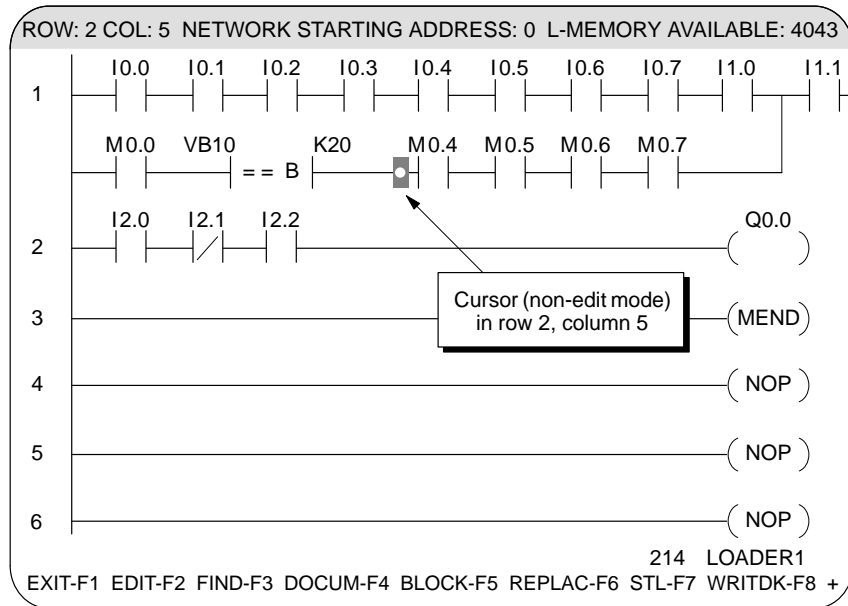

Figure 4-3 Example of Network that Extends Beyond the Screen
The top line of the ladder display tells you the location of the cursor by network row and column. The network starting address and the amount of ladder (L) memory available are also shown. In Figure 4-3, the cursor is positioned in Row 2, Column 5 of the first network. You can toggle the cursor position display on or off by pressing **Ctrl T**.
The absence of an output element in a display indicates that the network extends beyond the right edge of the screen. The absence of a network address indicates that the network extends beyond the left edge of the screen. Figure 4-3 shows a network that extends beyond the right edge of the screen.